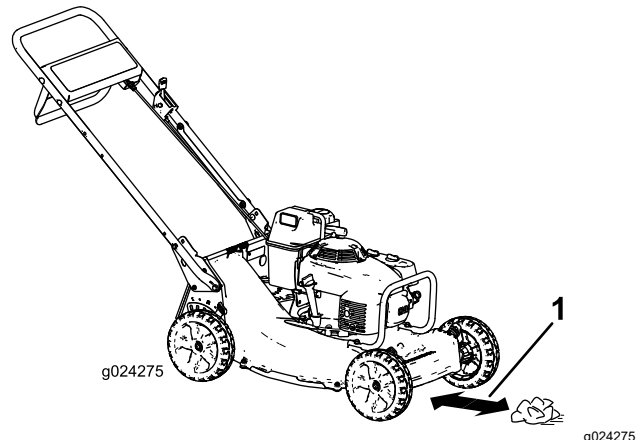

Figure 19
4. Place the newspaper ball about 13 cm (5 inches) in front of the machine (Figure 19).